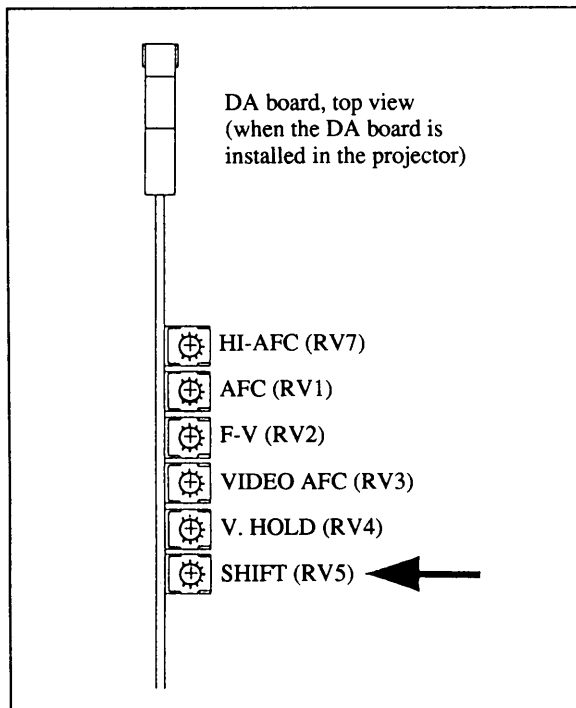

Figure 9
22. Open the ED bracket. Adjust RV5 on the DA board until the horizontal center line of the monoscope signal agrees with the center line of the screen. (See Figure 9.)